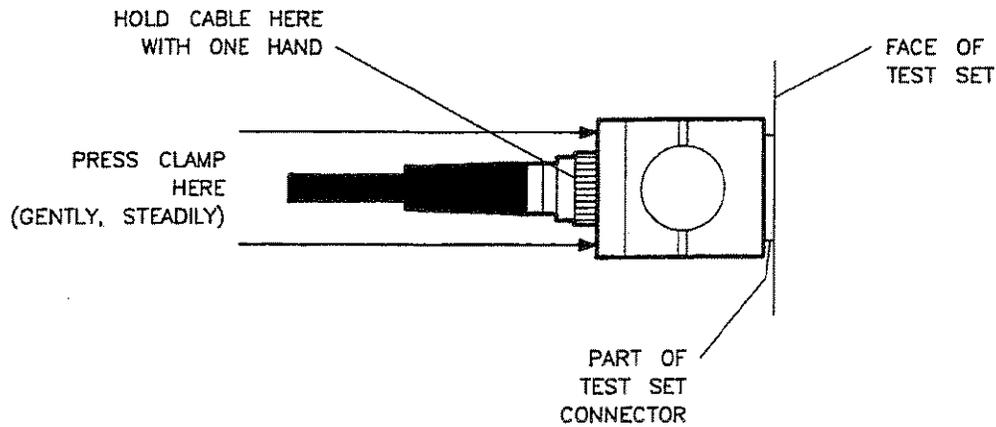

Figure 12. Mating the Clamp and Nut Flats
4. See Figure 12. Hold the cable with one hand and with the other, press the clamp gently and steadily while wiggling the clamp straight over the RF connector and onto the test port connector nut. The internal flats in the clamp must fit over the flats on the test port connector nut. Try not to rotate the clamp as you do this or the RF connection may be loosened.